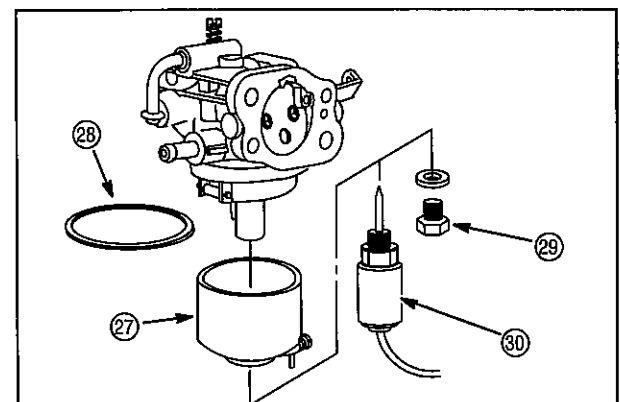

Fig. 57
- 19. Install bowl gasket (28), float bowl (27), washer and screw (29) or anti-afterfire solenoid (30), if equipped, **Fig. 57**.